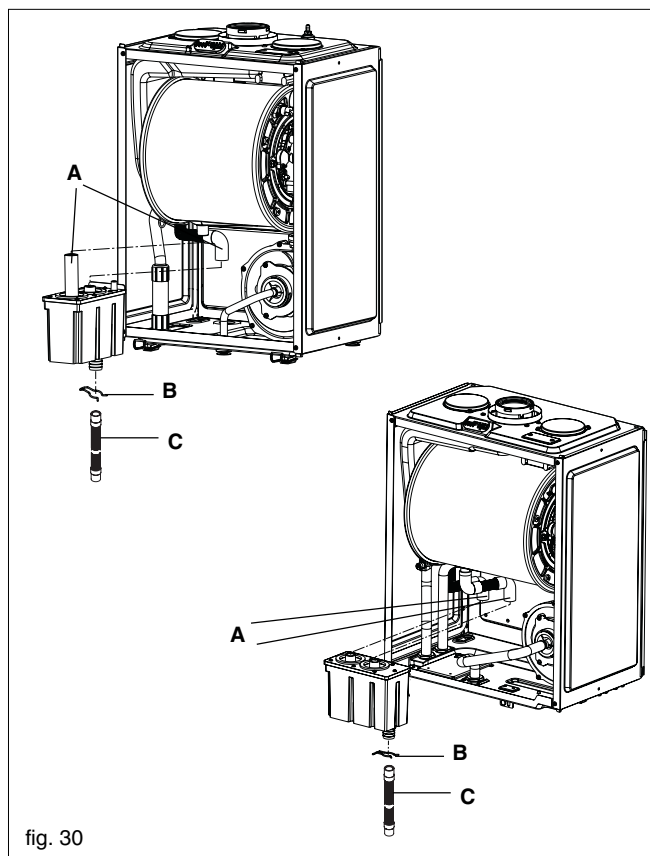

fig. 30
6.19 CONDENSE TRAP REMOVAL (fig. 30)